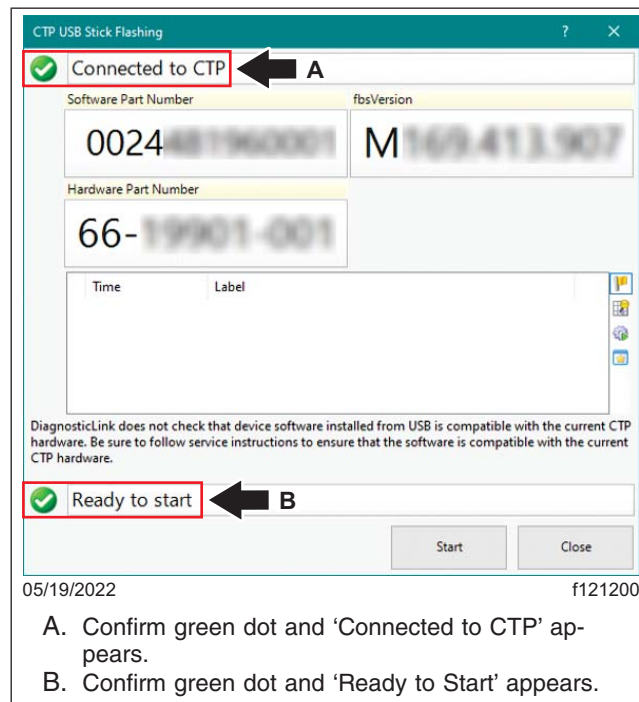

Fig. 26, CTP USB Stick Flashing Window
11. The 'CTP USB Stick Flashing' window appears. Verify that a green dot appears beside 'Connected to CTP' on the top-left, and beside 'Ready to start' at the bottom. See Fig. 26.
15. After the USB stick and adaptor are connected to the CTP, select the 'Start' button in the 'CTP USB Stick Flashing' window to begin the flashing process. See Fig. 26. Make a note of the time when the flashing process starts.